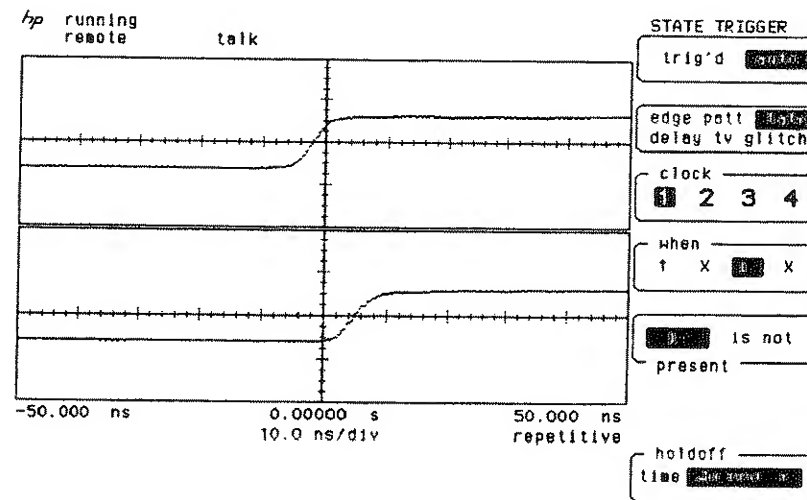

Figure 6-11. Channel 1 Clock XLX State
- Press the when key until is present is selected (see Figure 6-11).